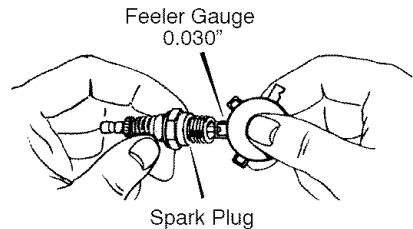

Figure 20
2. Check the **spark plug** gap with a **feeler gauge** and reset gap to 0.30" if necessary. See Figure 20.